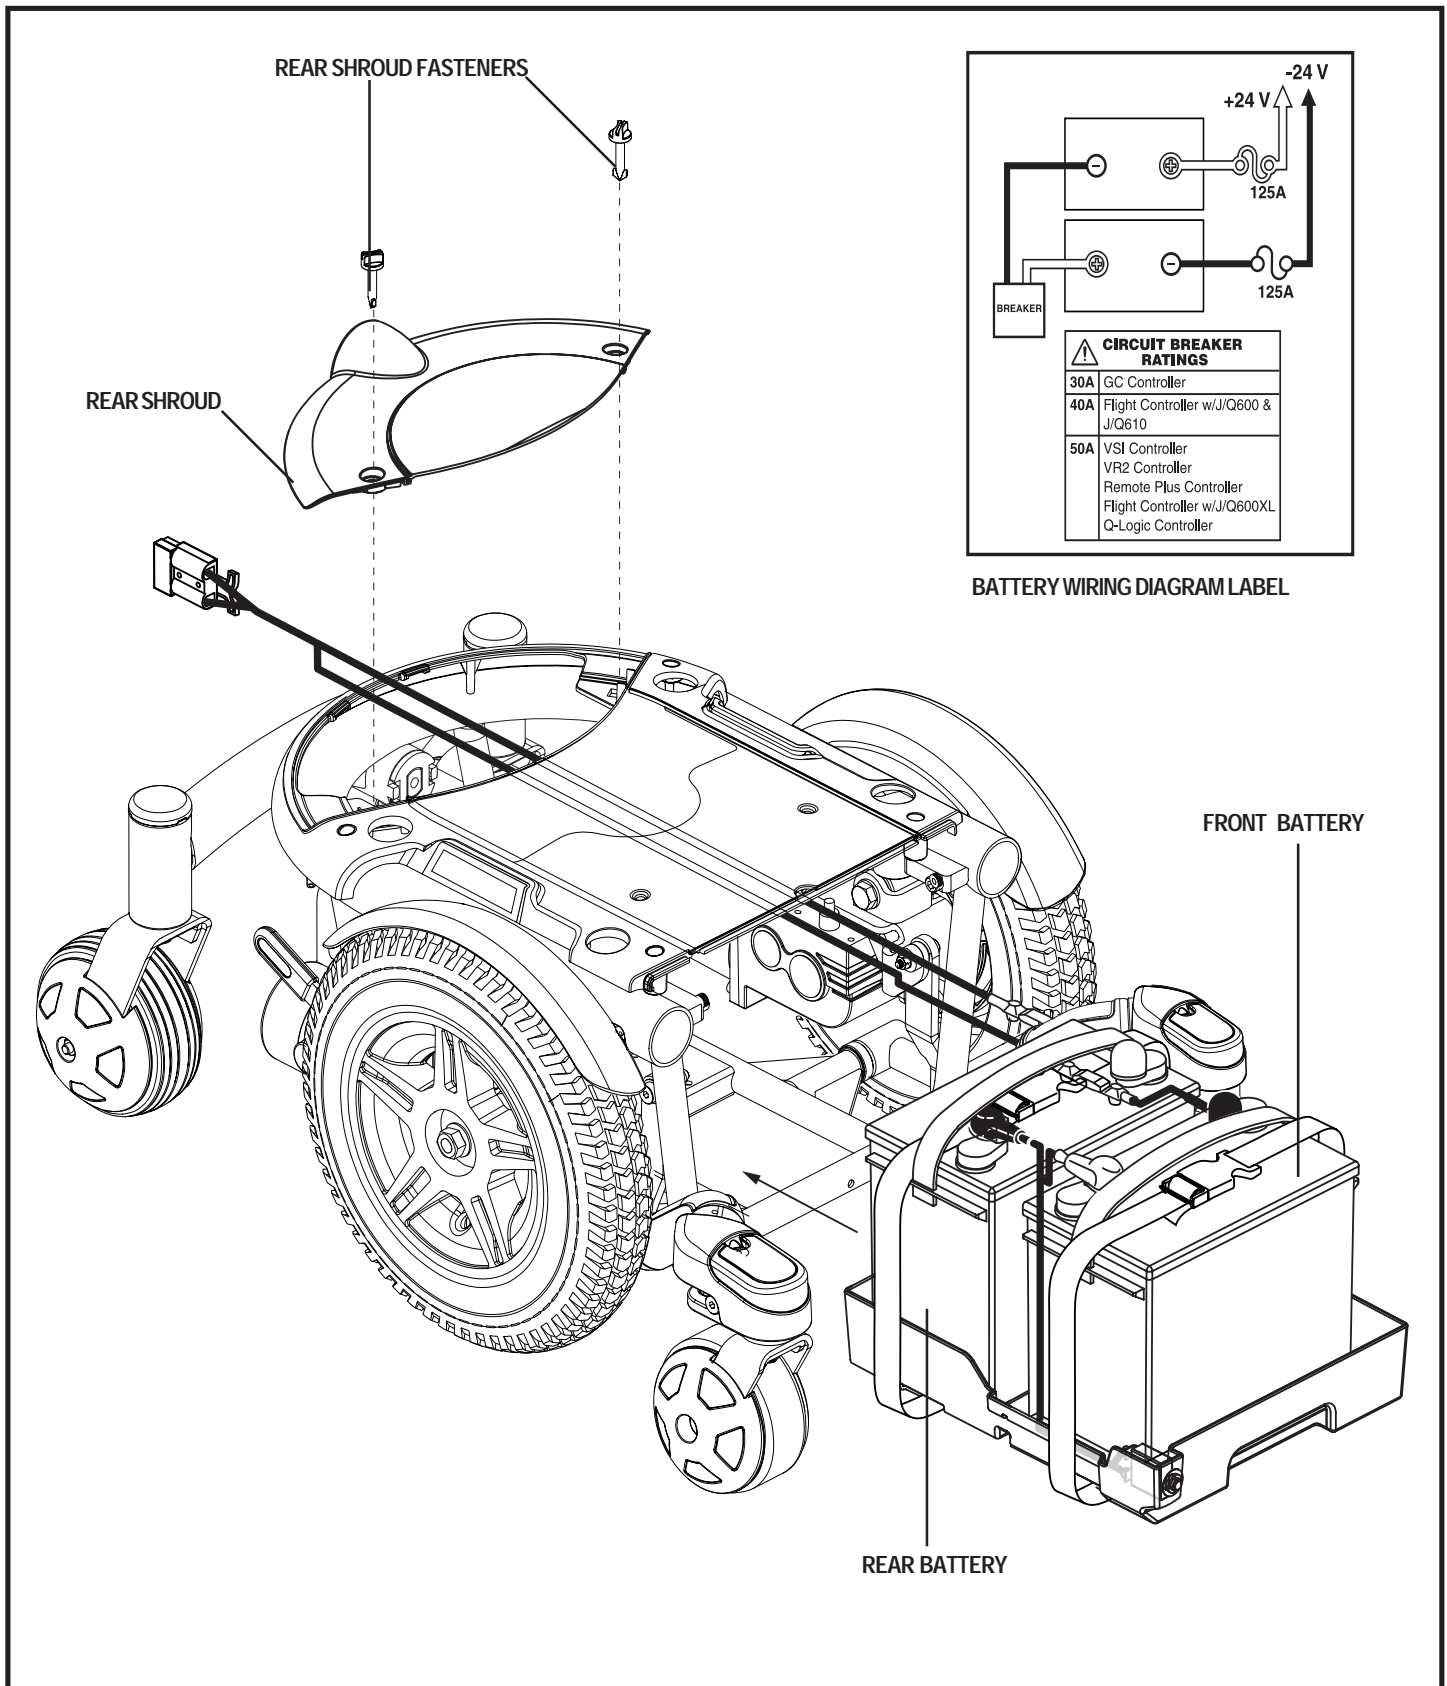

Figure 22. Battery Installation
3. Loosen the rear shroud fasteners. See figure 22.
13. Connect the battery harness to the front battery according to the battery wiring diagram. See figure 22.